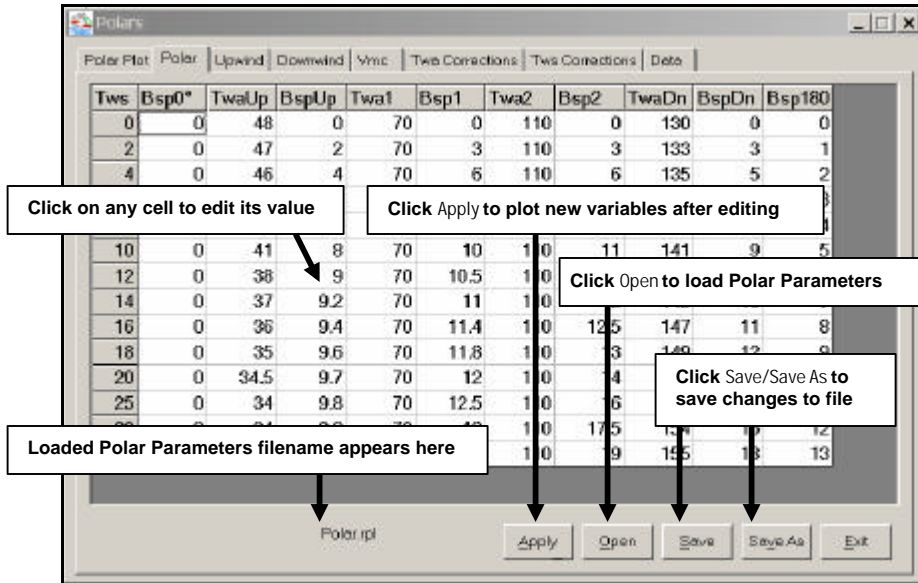

Figure 5-14. Polar Parameters Screen
1. On the Polars screen, click the **Polar** tab. The Polar Parameters screen is displayed (Figure 5-14).
This section lists the basic steps you must perform to graph and read a Polar Plot screen (Figures 5-14 and 5-18). The Polar Plot screen graphs the theoretical headings your boat should take toward specified targets (both upwind and down) when encountering various wind conditions. As discussed earlier, the accuracy of these graphs depends primarily on the volume and accuracy of the boat- and weather-specific information you've entered into the Polar Parameters and Data Tests screens. After you have entered your data, that information is displayed as a polar graph in the Polar Plot screen. Placing the cursor anywhere along the Polar plot yields a small pop-up window that displays the wind angle/boat speed correlation at that point.